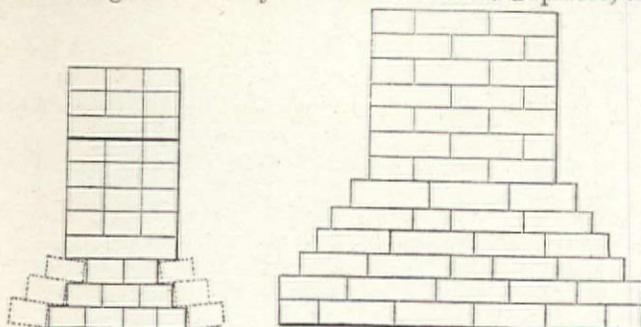
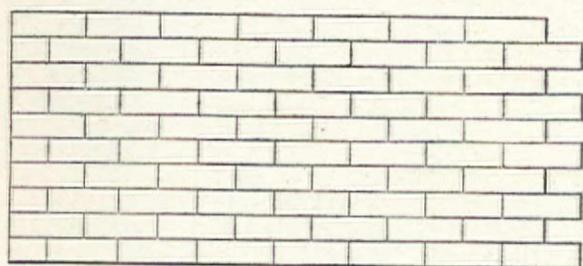
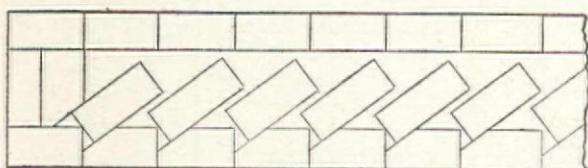
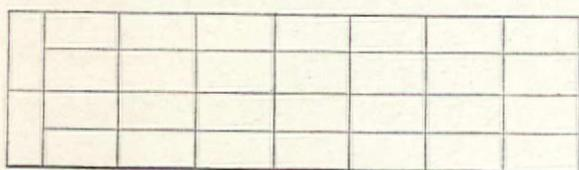

FIG. 1. DISPLACED BRICK. FIG. 2. FOOTINGS FOR HEAVY WALLS.
FIG. 3.
FIG. 4.
FIG. 5.
Then there comes the man who orders concrete blocks made for his building in representation of common stones, as at the left side of Fig. 4. This is not by any means an exceptional order. Some of the concrete block makers refuse these bothersome orders on the plea that they are too busy with regular work, or that they do not have the proper moulds for shaping the odd patterns. Other manufacturers, desiring to build up their business and to accommodate, undertake the work, although there may be little money in the job. The new moulds have to be made, and this costs money and consumes time. However, from what I could learn by calling at a number of concrete block works, the majority of proprietors were willing to furnish whatever styles of blocks they could make, even though the margin of profit might not be large. As a whole the profits run high and are liberal. The cement block maker, whether he is turning out the regular run of blocks or special patterns, can always depend upon good prices and fair profits.
cated by Fig. 1. Where, however, they are laid headers, three-fourths of their length is bound into the wall, and they can scarcely fail, except it be by reason of the bricks themselves splitting into
The diagrams, Figs. 3, 4 and 5, show the plans and elevations of an external wall in running bond. Fig. 4 shows plan or wall
1.25 tons per superficial foot, then $\frac{175}{1.25} = 140$ sq. ft. area required at base of foundation, and $\sqrt{140} = 11.83$, say 12 ft. width of side, with twelve rolled-steel joists. The stanchion will be approximately as Fig. 1, composed of two 12-in. by 3 1/2-in. by 32-lb. channels, and two 14-in. by 1/2-in. plates, with 3/4-in. rivets, 4-in. pitch. The sectional area will be about 33 sq. in. and the stress $\frac{175}{33} = 5.3$ tons per square inch. The base may be built up of plate, gussets, and angles as for resting on stone or concrete, but a more usual method is to put a cast-steel base under the stanchion, as in plan (Fig. 2) and section (Fig. 3), allowing, say, 20 tons per square foot. $\frac{175}{20} = 8.75$, $\sqrt{8.75} =$ say 3-ft. side of cast-steel base. Placing the first layer of joists at 9-in. centers, there will be four required in the top row, projecting midway from the steel base to the outside of foundation, giving a length of $\frac{12 - 3}{2} + 3 = 7.5$ ft. The number of joists in the middle layer $= \frac{4 + 12}{2} = 8$. Then the plan of the foundation will be as Fig. 4, and section as Fig. 5. The next step will be to calculate the size of the rolled joists. Beginning with the lower ones, the distributed
Fig. 1 shows the four elevations of the roof lettered to correspond to the same pieces on the plan Fig. 2. (The valleys cannot be seen in the elevations.)
It will be seen at Fig. 1 that the pitch of this roof is 10 inch rise to the foot run (except the roof over the front porch, which is 5 inch rise to the foot run); the common run at the widest is seen to be 15 feet, half of 30 feet, the main ridge is therefore 15x10=150 inches=12 feet 6 inches high above the plates. Ridge R' is 25 feet ÷ 2=12 feet 6 inches x 10=125 inches=10 feet 5 inches high above plates. Ridge R is 22 feet ÷ 2=11 feet 0 inches x 10=110 inches=9 feet 2 inches high above plates. Ridge L is 13 feet ÷ 2=6 feet 6 inches x 10=65 inches=5 feet 5 inches high above plates. (See dimensions given on Fig. 1.)